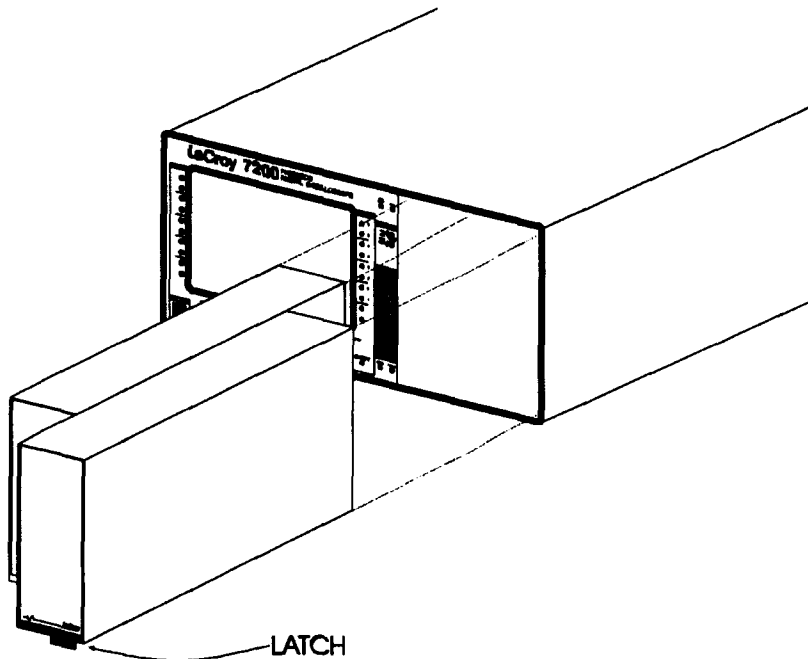

Figure 1
- a.) Align groove on bottom of plug-in module (Figure 1) with guide on bottom of plug-in compartment of 7200 mainframe.